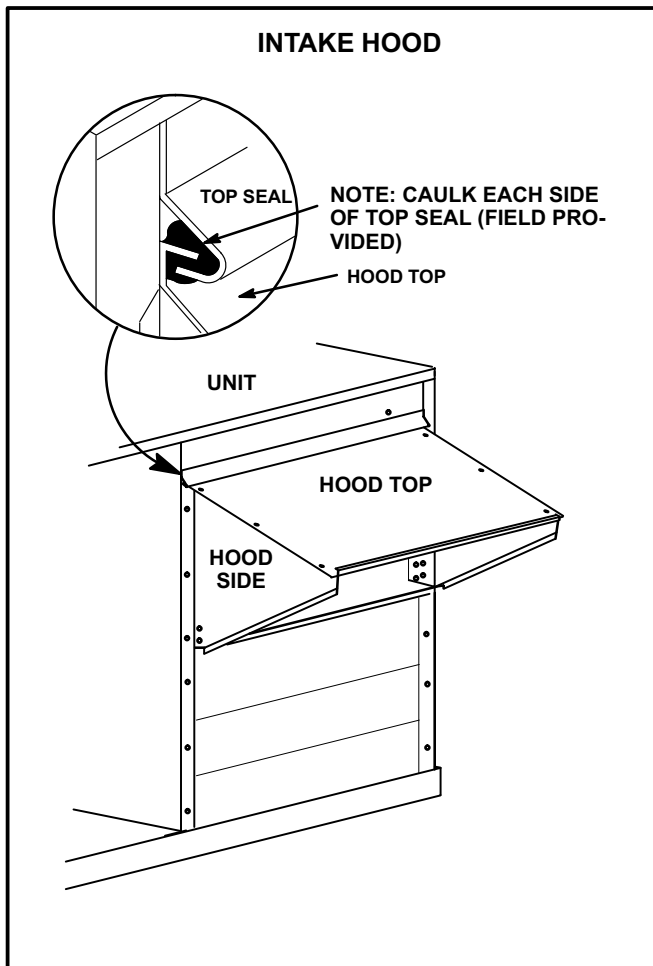

FIGURE 4
- 1- Remove screws securing side flanges of top hood to unit. See figure 4.
- 2- Pivot top hood open and secure sides of intake hood to top of hood using three sheet metal screws on each side. See figure 4.